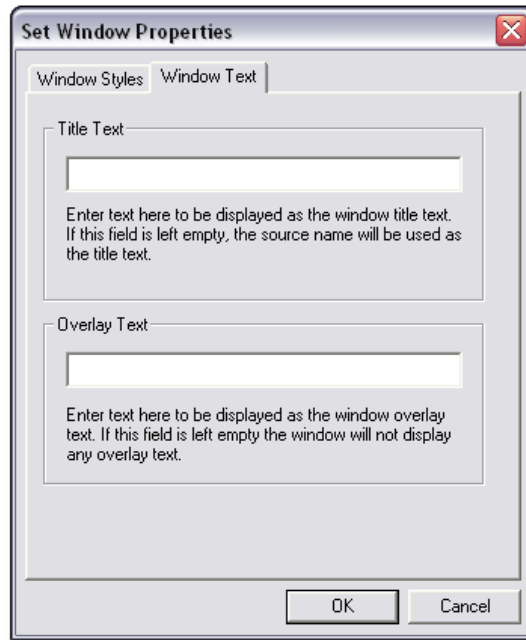

Figure 37. Window Text Dialog Box
2. Right-click the window and select **Window Properties** from the drop-down menu. The **Set Window Properties** dialog box opens (see figure 37).